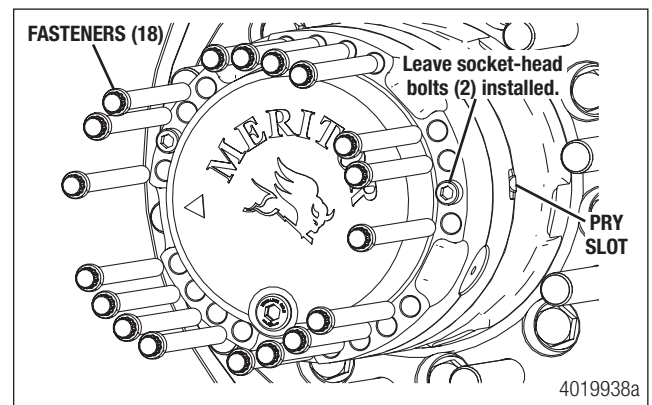

Figure 7
- b. Remove the 18, M12 X 1.75-6g fasteners from the hub reduction wheel-end assembly using a 12-point socket. Do not remove the socket-head bolts. Figure 7.